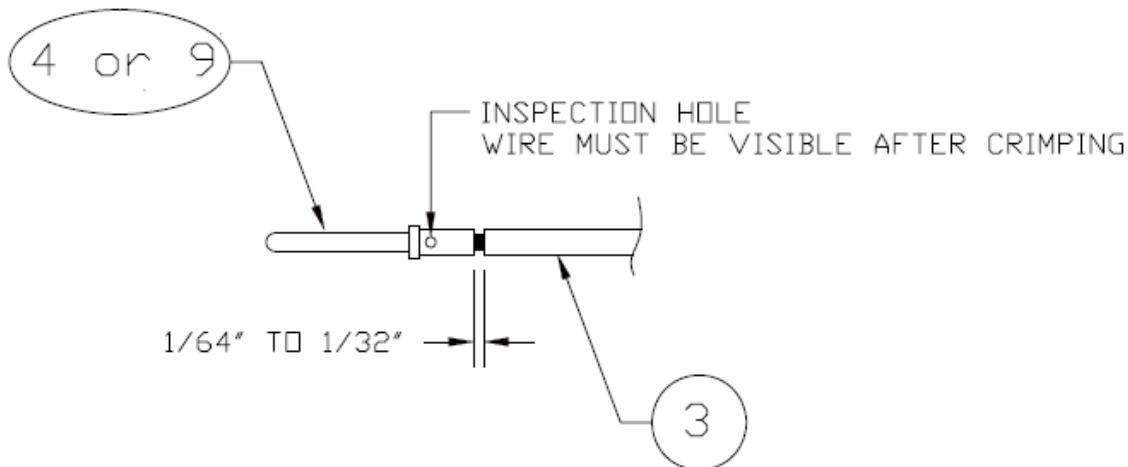
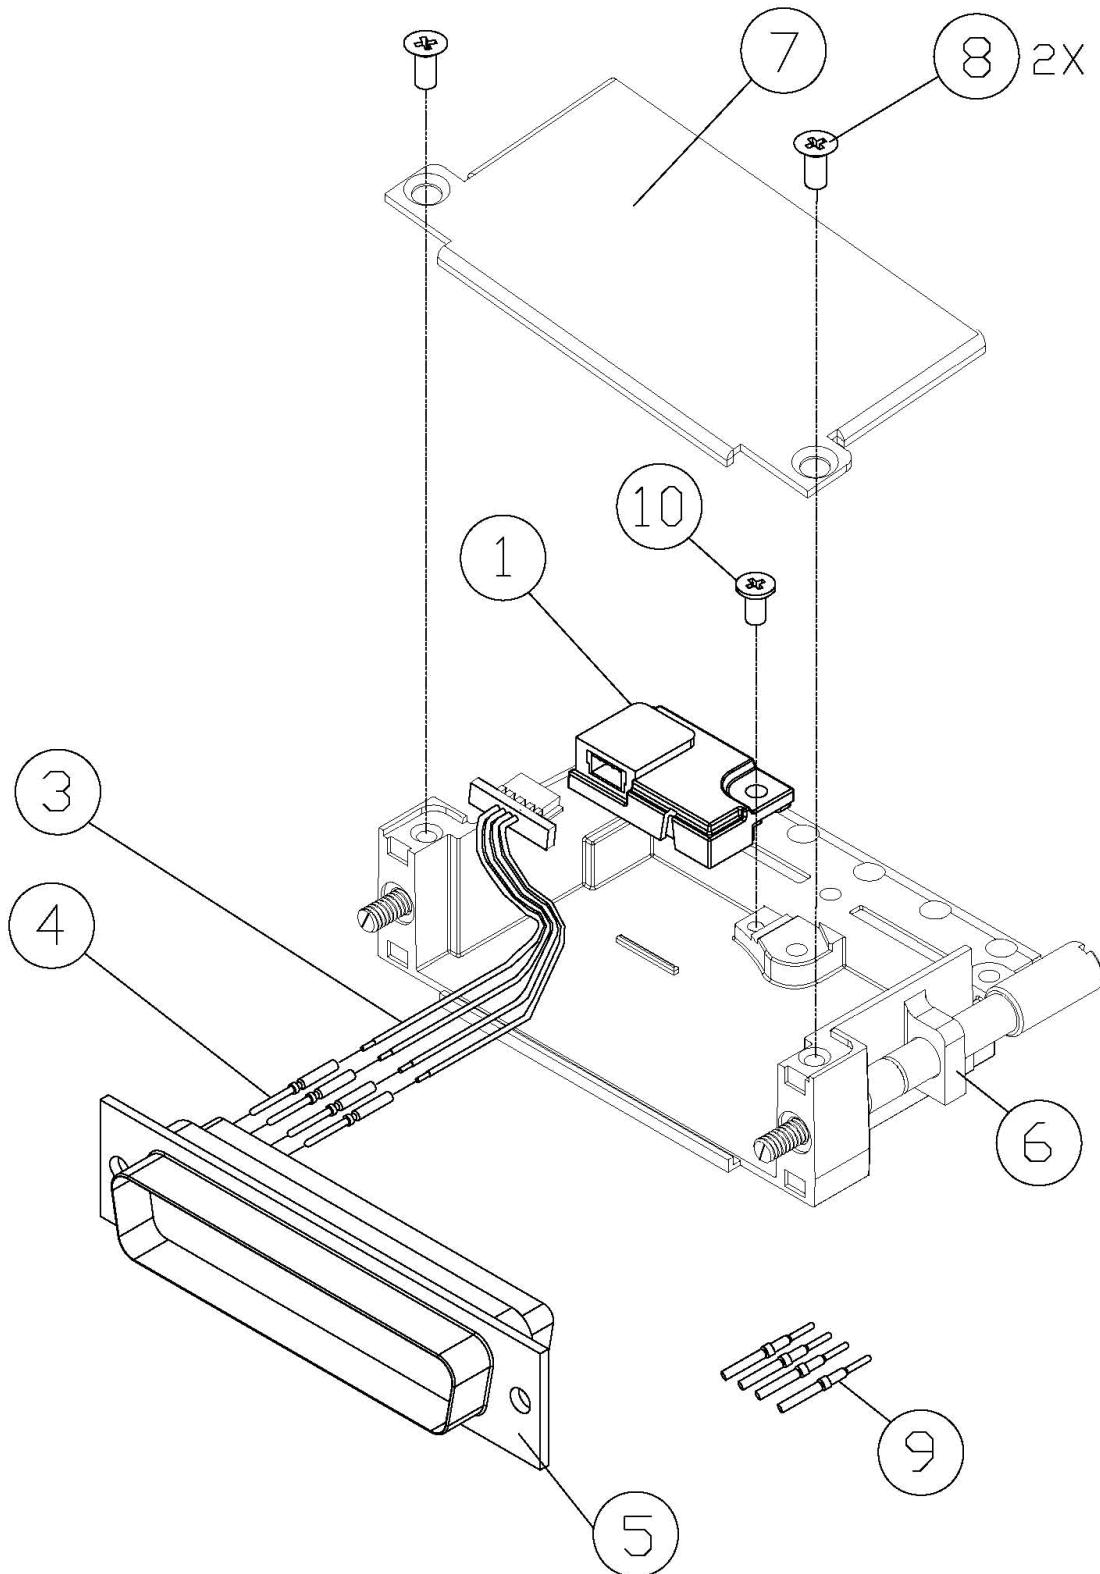

Figure 16-3 Insulation/Contact Clearance
Figure 16-4 Jackscrew Backshell Installation
For the following steps please refer to Figure 16-3 & Figure 16-4.
1. Strip back approximately 0.17 inches of insulation from each wire of the four conductor wire harness (item 3) and crimp either a pin (item 4) or a socket (item 9) to each conductor. It is the responsibility of the installer to determine the proper length of insulation to be removed. Wire must be visible in the inspection hole after crimping and the insulation must be $1/64$ – $1/32$ inches from the end of the contact as shown in Figure 16-3.